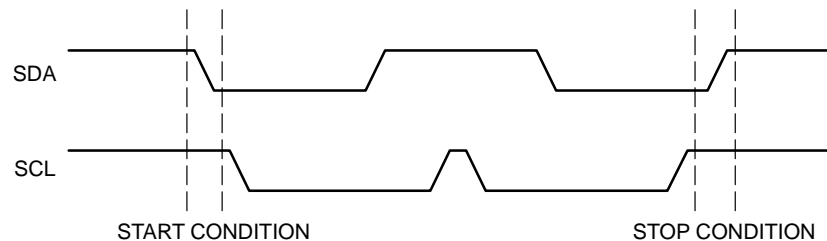

Figure 5. Start/Stop Timing
2. During a data transfer, the data line must remain stable whenever the clock line is high. Any changes in the data line while the clock line is high will be interpreted as a START or STOP condition (Figure 5).